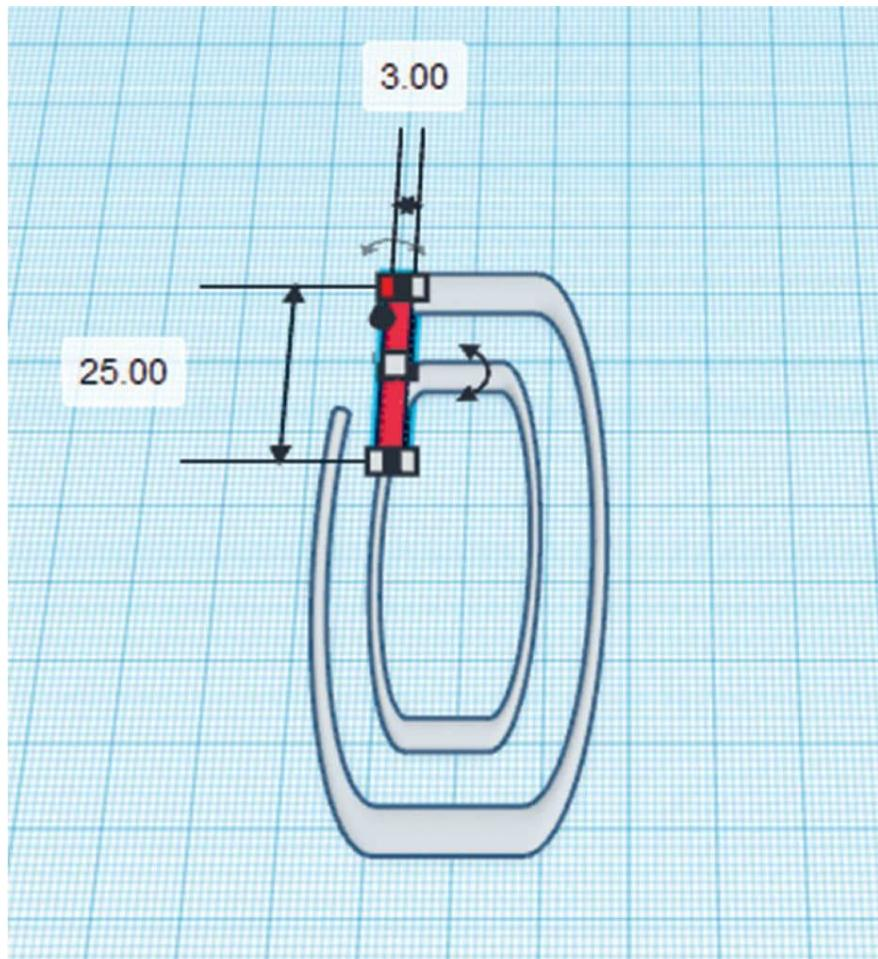

FIG. 3: Connect the two tori with a **Rectangular Bar** to create the clip.
3. Connect the two tori using a **Rectangular Bar** as shown in fig. 3.